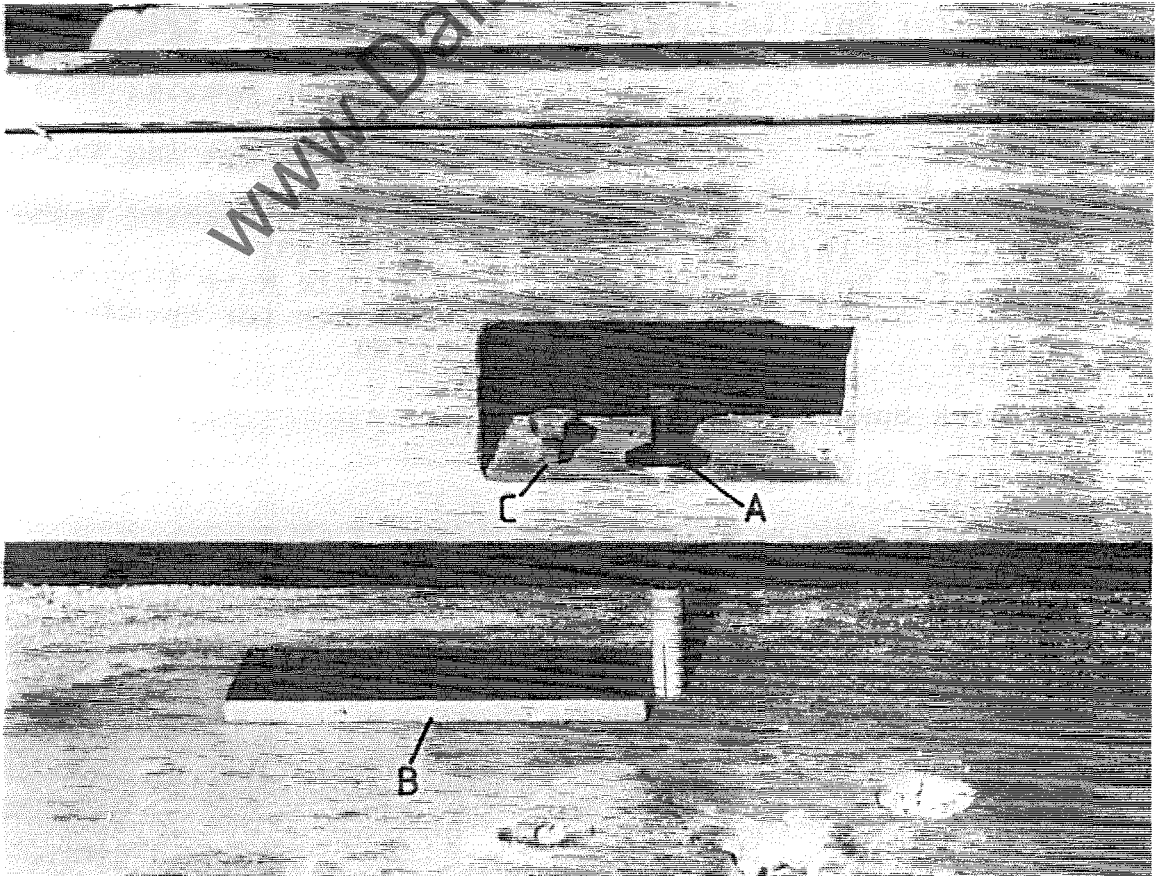

FIG. 6
- 1 Refer to SLINGING and move machine into position, ensuring all holes in machine base locate on 16mm ragbolts "A" FIG.6 .
- 2 Fit steel packing pieces "B" beneath levelling screws "C" in the base of the machine, FIG.6.